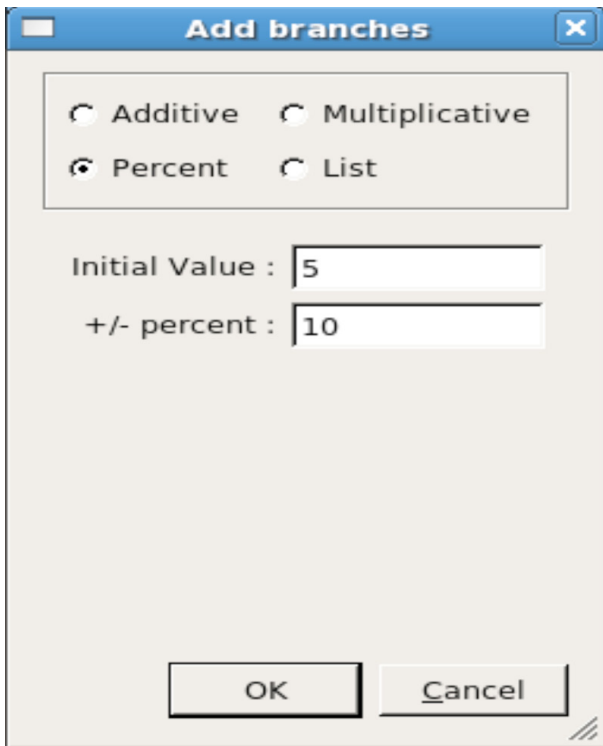

Figure 8. split VDD.
1. split "VDD" value in $5V \pm 10\%$. See Figure 8,9.